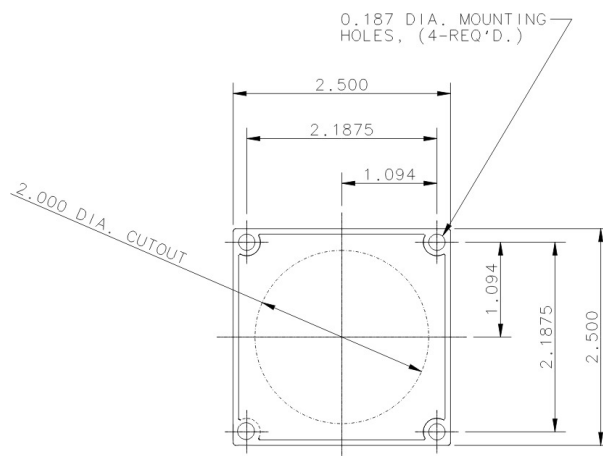

Figure 14
- Mark locations of mounting holes on mounting surface or bracket per Figure 14
- Cut 2.0" diameter clearance hole and drill, (4) 3/16" diameter, mounting holes.